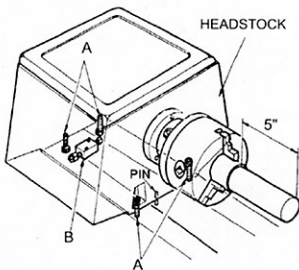

Fig.23
6. If the measurements are not the same and adjustment is required, loosen hex socket cap screws(A, Fig.23) which hold the headstock to the bed. Do not loosen completely; some drag should remain.